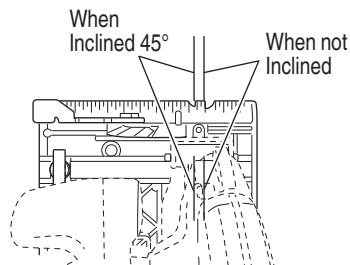
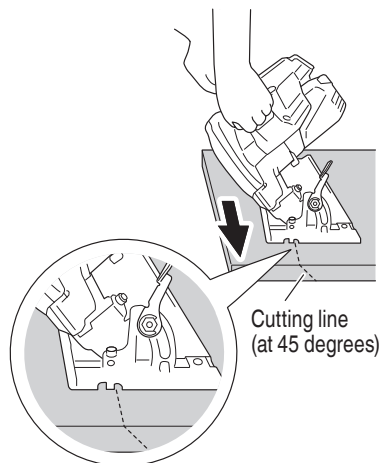
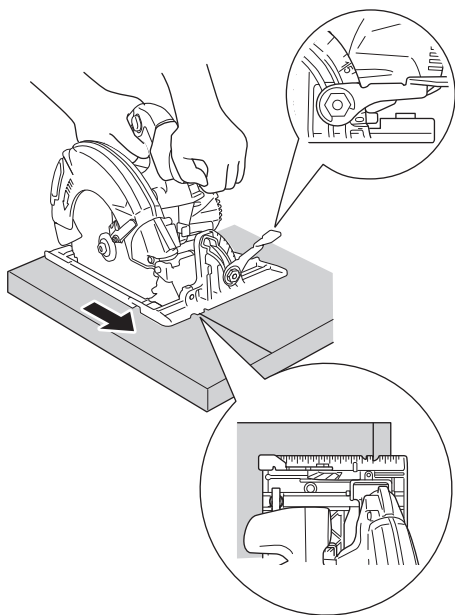

Fig. 28
Fig. 30
Fig. 29
- (2) When the base is not inclined, use the right side of the notch (Fig. 28, Fig. 29).
If the base is inclined (45 degrees), use the left side of the notch (Fig. 28, Fig. 30).
4. Tilt saw forward and align the notch (Fig. 28) with the pre-marked guide line.